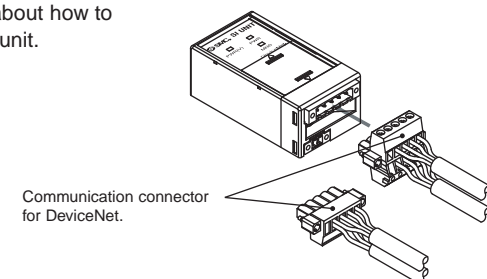

Fig. 3
(3) Refer to Fig.3 about how to connect to the unit.